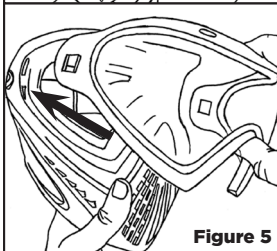

Figure 5
- 2 Slide the lens through the slots on the side of the Goggle System. [See Figure 5]